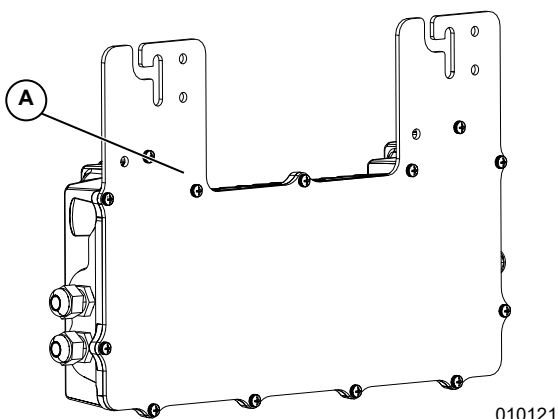

Figure 2-1. Serial Number Location
Refer to **Figure 2-1** to locate the unit serial number and RCP number (A). Record the information from this tag in **Table 1: Generac PV Link Important Information** on the inside front cover of this manual so it is available if the tags are lost or damaged. When requesting assistance, you may be asked to provide this information.